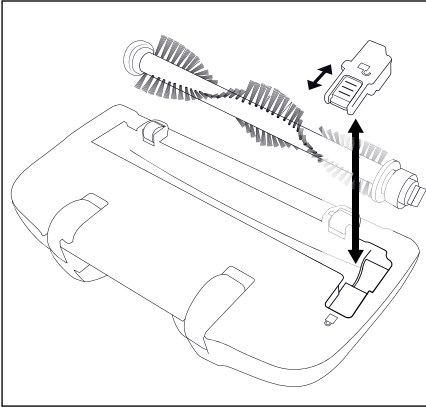

Fig. 4
- 2) Push the catch on the cover plate towards the **⬇** symbol so that you can remove the cover plate (fig. 4).
- 7) Replace the cover plate and fasten it firmly into place by pushing the catch towards the  symbol (fig. 4).